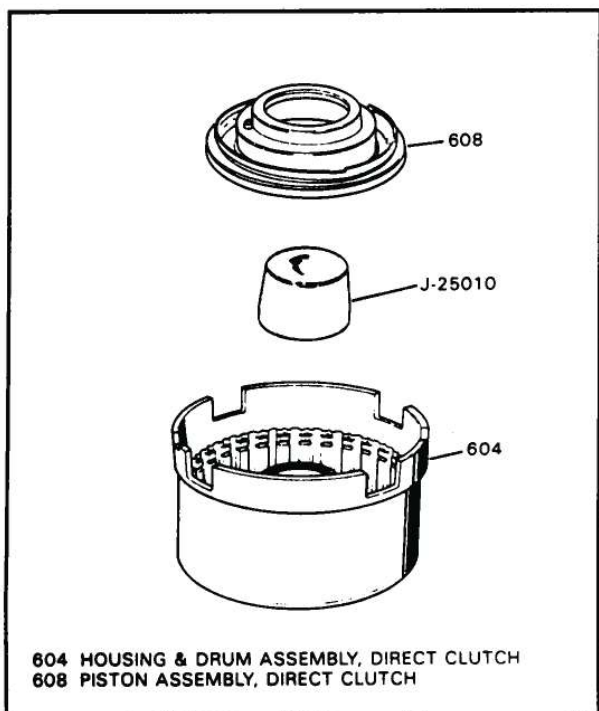

Figure 85
5. Install lip seal protector J-25010 onto the direct clutch housing (See Figure 85).